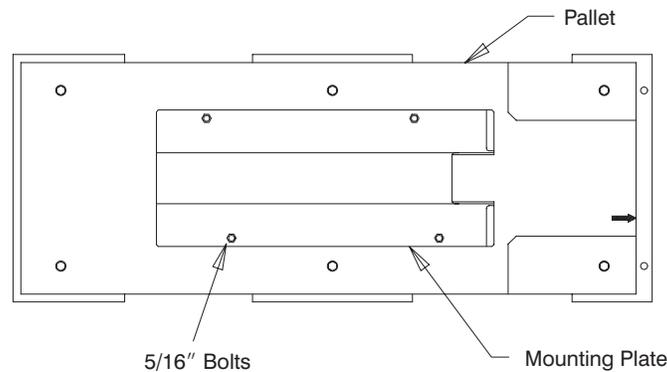

Figure 5. UPS Mounting Plate
3. Remove the mounting plates from the pallets (see Figure 5).